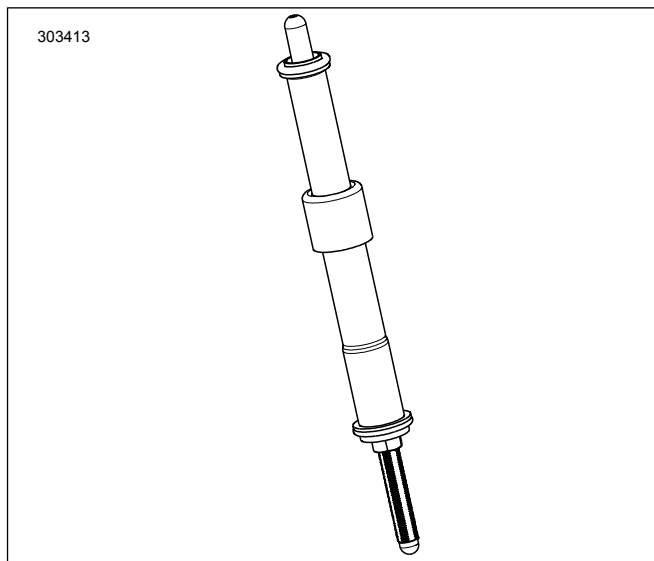

Figure 2. Pushrod Installed into Pushrod Cover
7. Figure 2 Install intake pushrods into pushrod covers.